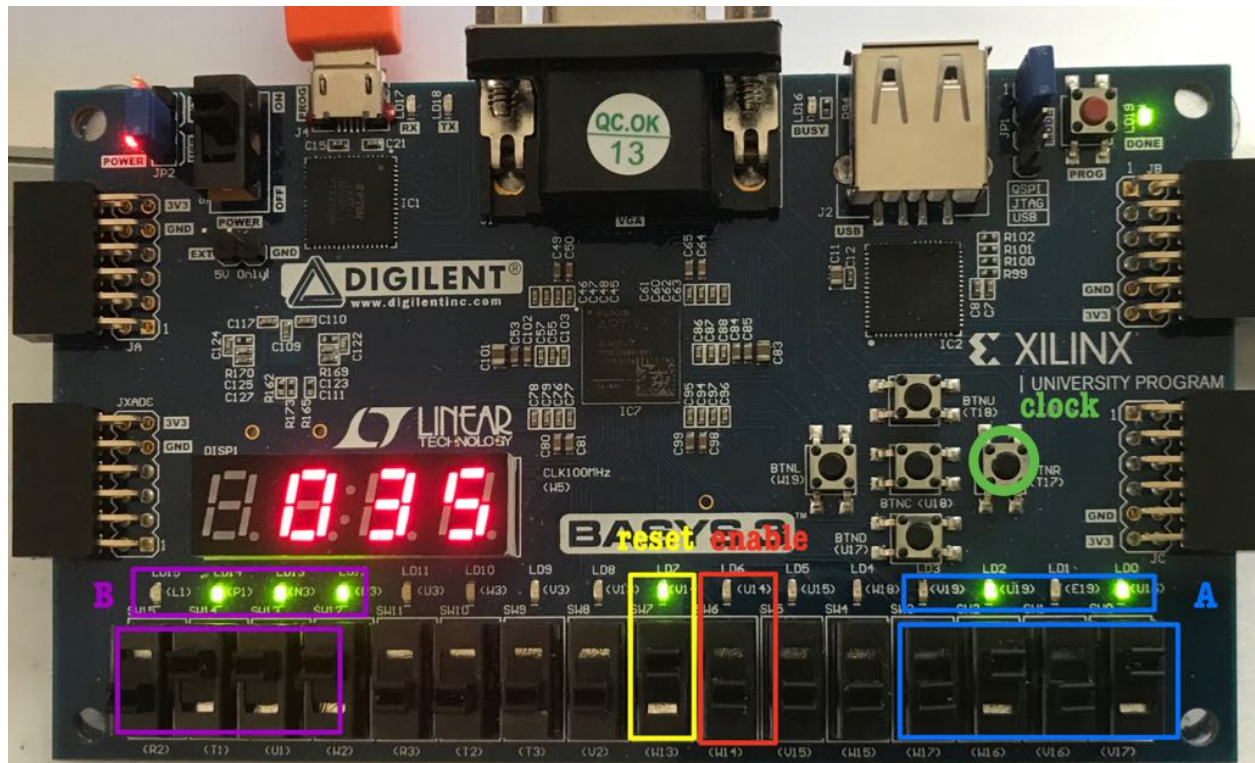

Figure 10: inputs and outputs layout for the FPGA validation process.
For the FPGA validation process, the rightmost four switches is four bits of A (Blue), the leftmost four switches is four bits of B (Purple), the button on the left is the clock (Green), and two switches in the middle are reset (Yellow) and enable (Red). Furthermore, the rightmost three seven-segments LEDs are the output (P). In addition, the LED above each input switch indicates whether they are on or off. For instance, the LED is lit when switch is on (1), and not lit when switch is off (0). According to Figure 10 below, when A is 5 (0101), B is 7 (0111), and the enable switch is on (1), the result shown in the seven-segments LEDs is 35 after three times pressed clock button (three clock cycles). Moreover, when the reset switch is on and off one time, the output becomes 0. This result is as expected because only when it is enabled, the multiplication of 5 and 7 is 35. As soon as the reset switch is on, the output is 0. We also tested when the enable switch is off, the output remains unchanged for every clock cycle (Hold). Furthermore, we